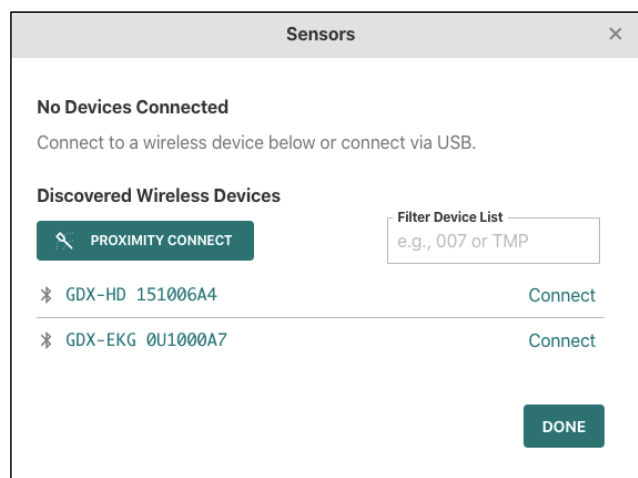

Figure 7. GAPro Proximity Connect via BlueTooth.
- Connect both devices using the Sensor Setup button. Proximity Connect will detect both devices (Fig. 7) if they are flashing red. They will quickly power down automatically if not connected, simply turn the power on again if that happens.